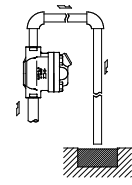

Figure 2
- Install outlet piping leading to a drainage vessel or ditch. Make sure the end of the pipe is above the waterline, so that dirt and water can not be sucked up by vacuum when the system shuts down (Figure 2).